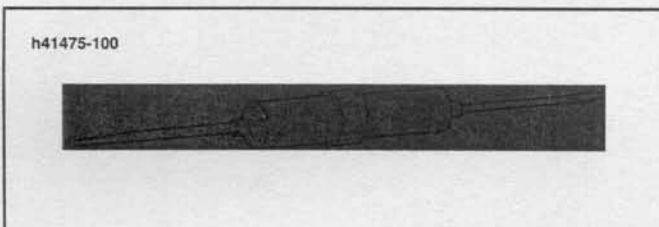

Figure A-10. Deutsch Connector Pick Tool (HD-41475-100)
1. Remove the secondary locking wedge. Use the hooked end of a stiff piece of mechanics wire a needle nose pliers, or a suitable pick tool (HD-41475-100). See Figure A-10.